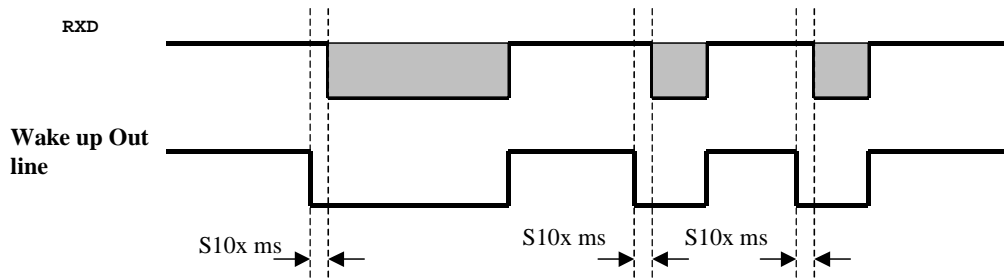

Figure 11. Waking Up the DTE when the g20 Wants to Send Data
- The g20 will send the Wake-up Out line #ms to low, as indicated by S10x in Figure 11.